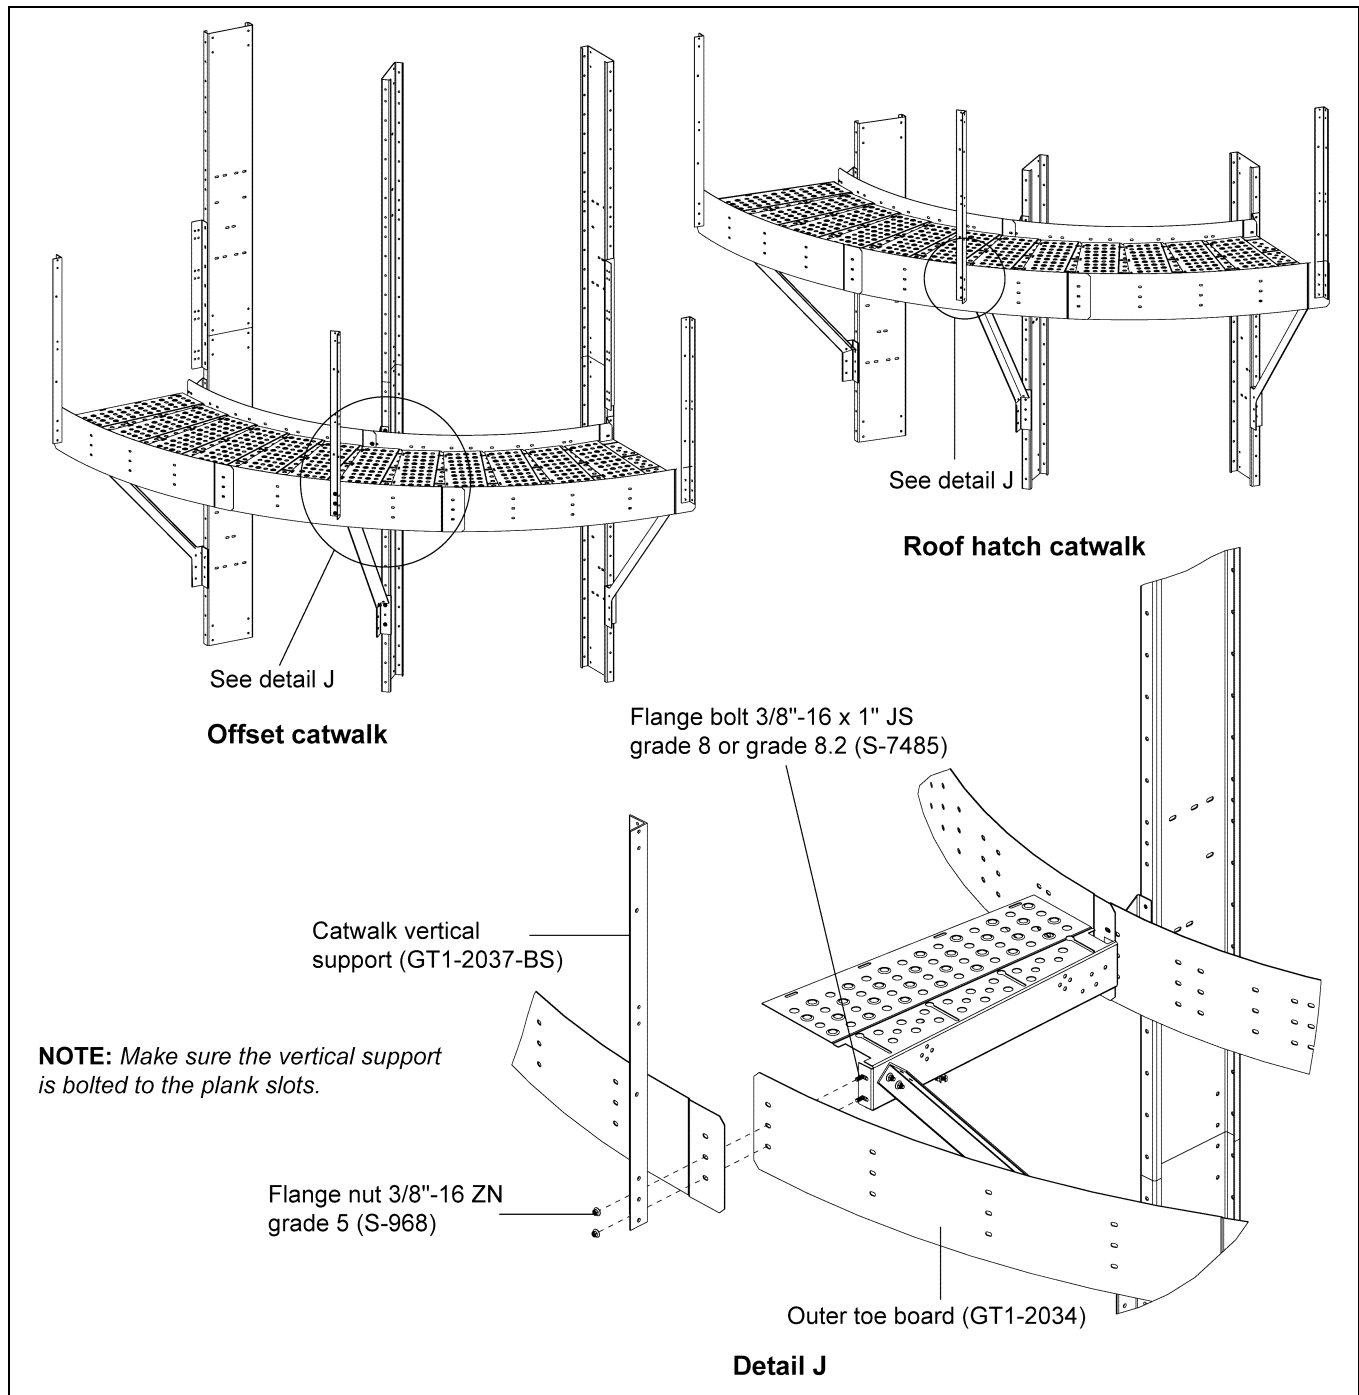

Figure 6T Outer Toe Board (GT1-2034) and Vertical Support (GT1-2037-BS)
1. Install all the outer toe boards (GT1-2034) to the planks (GT3-1669). *(See Figure 6T.)*
2. When installing the outer toe board with planks, install the catwalk vertical support (GT1-2037-BS) simultaneously at proper locations using 3/8"-16 x 1" JS grade 8 or grade 8.2 bolts (S-7485) and 3/8"-16 ZN grade 5 nuts (S-968). *(See Figure 6T.)*